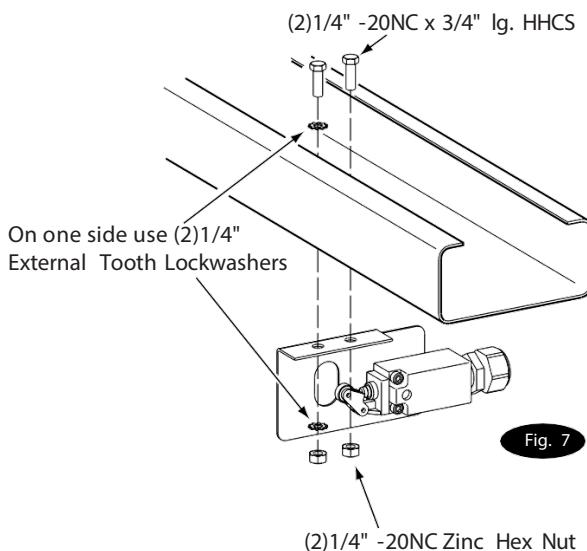

Fig. 7
Mount switch assembly towards power unit column using(2) 1/4"-20NC x 3/4" lg. HHCS, 1/4"-20NC Nuts and 1/4" Star Washers, Fig. 7.
(4) 3/8" -16NC x 3/4" Flanged HHCS